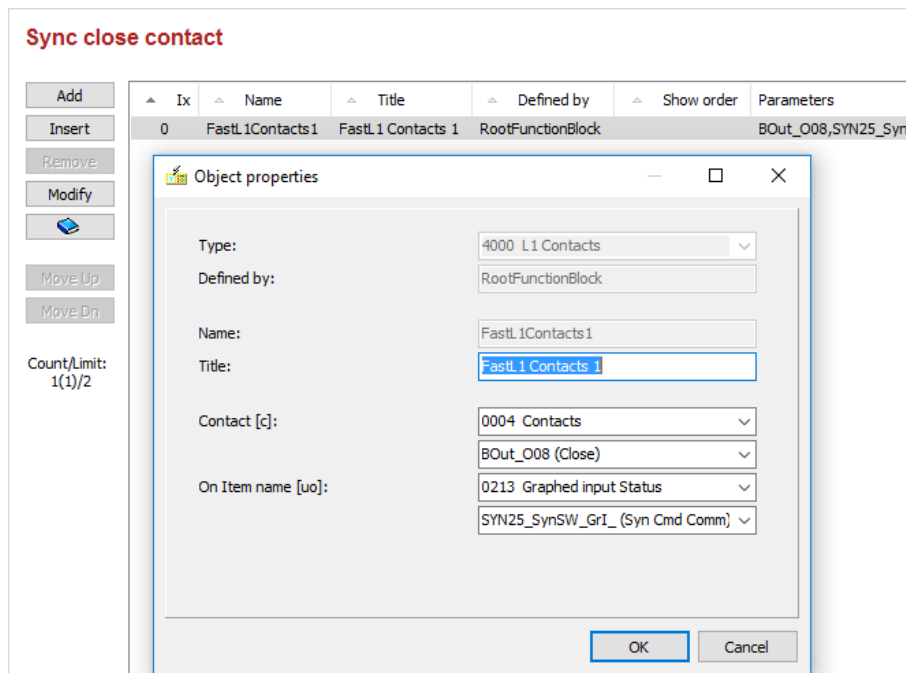

Figure 0-28 Assignment of the Sync Close contacts
- active buttons. In this case, the data input window shown in Figure 0-28 is opened.
Figure 0-28 shows that the Bout_008 (Close) contact gets the status of the SYN25_SynSW_GrI_ (SynchroSwitch Close) in every millisecond. The selection of both the output contact and the driving signal is supported by dropdown menus.